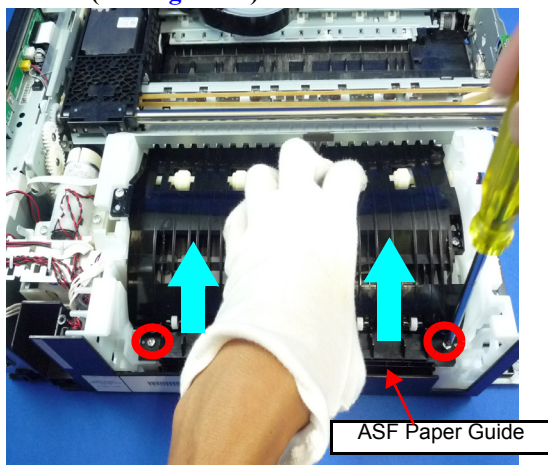

Figure 4-98. Retightening screw for ASF Paper Guide
- Need to retighten screw for ASF Paper Guide when disassembling and reassembling the Lower ASF Paper guide assy. Tighten a screw while pushing ASF Paper Guide Assy toward the front side of printer when tighten screw for ASF Paper Guide. (See Fig. 4-98.)